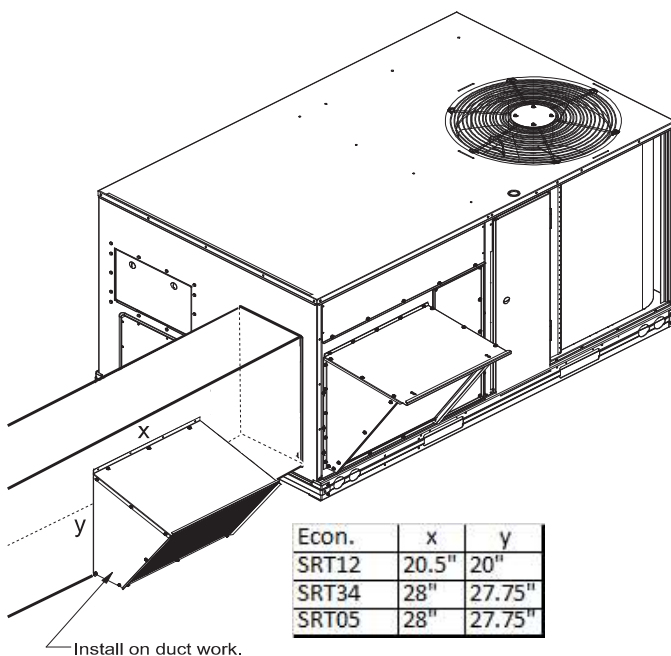

Fig. 12 - Relief Damper/Hood Assembly Installation Location
16. Establish the desired location in the RA Duct of the Relief Hood Assembly. Cut hole in Duct to match the opening of the Relief Hood. Attach with provided TEK screws - See **Fig. 12**.
9. Establish the desired location in the RA Duct of the Relief Hood Assembly. Cut hole in Duct to match the opening of the Relief Hood. Attach with provided TEK screws - See **Fig. 12**.